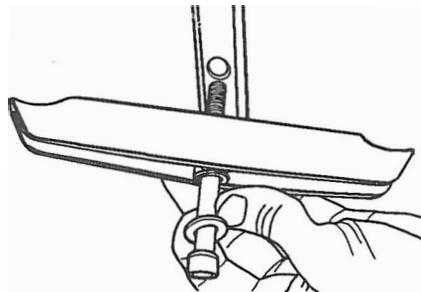

Fig. A-38
**32.** Thread the tube clamp into the bottom of the support bracket, as seen in Fig. A-38.